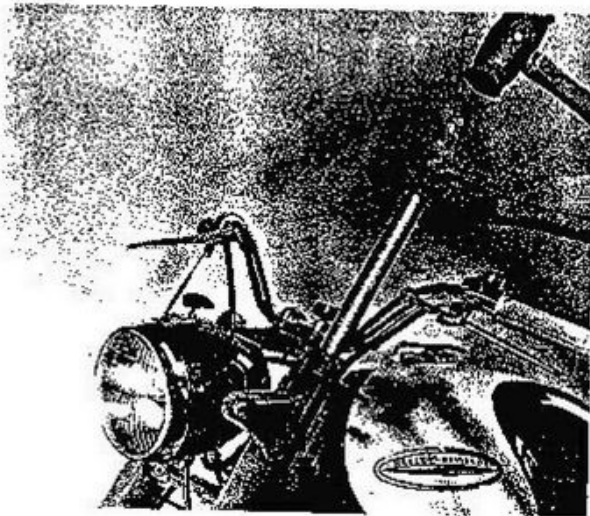

Figure 2F-55. Removing Fork Side
If inspection shows that fork parts are bent, broken or damaged in any way proceed as follows: Remove damaged parts in question according to procedure listed under "Disassembling Front Fork." (See Fig. 2F-54.) Wash and examine all parts thoroughly to determine whether they can be economically repaired or should be replaced. If further inspection shows that not only fork parts are damaged or bent but also that the fork stem and bracket (30) and fork upper
REMOVING FORK STEM AND BRACKET ASSEMBLY FROM STEERING HEAD. (See Figs. 2F-54 & 2F-54A)